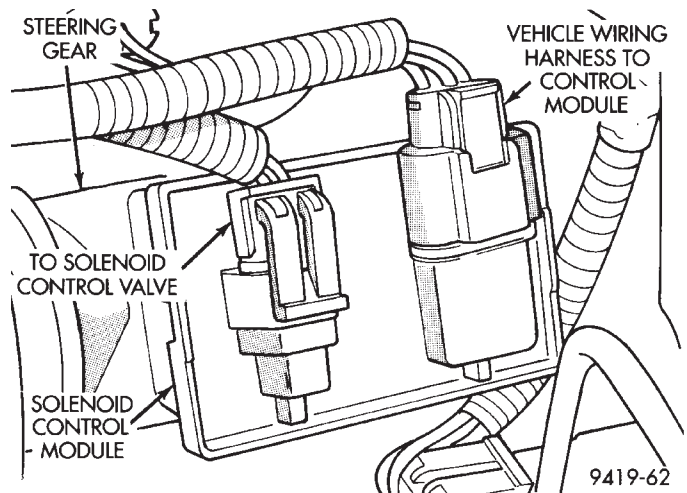

Fig. 11 Wiring Harness Connections To Solenoid Control Module
(16) If the steering gear being removed from the vehicle is a speed proportional steering gear, remove the wiring harness connector, coming from the vehicle wiring harness, from the solenoid control module (Fig. 11).
(13) Install cowl closure panel on cowl and windshield wiper module. Install and securely tighten the 6 screws attaching cowl closure to vehicle. Install weather strip on shock towers and the clips securing cowl closure panel to windshield wiper module.
(14) Install windshield washer hoses on wiper arms first, then install both windshield wiper arms on windshield wiper arm pivots and lock arms in place.
(15) If vehicle is equipped with a 3.5 ltr engine, install throttle cable in throttle cable bracket and install cable throttle cable on throttle body.
(16) Connect wiring harness connector from solenoid control valve onto solenoid control module (Fig. 11). **Be sure wiring harness connector seal are on connector is in good condition before installing connector on control module.**
(17) Raise vehicle